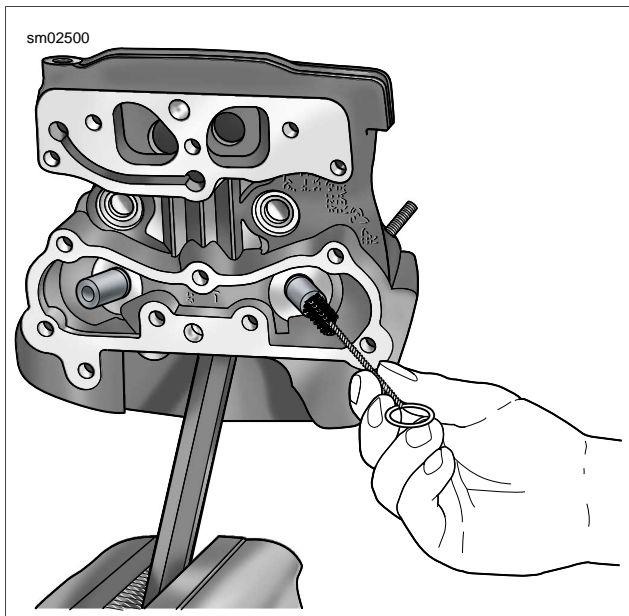

Figure 3-92. Scrubbing Valve Guide Bore
7. See Figure 3-92. Clean valve guide bore with the VALVE GUIDE CLEANING BRUSH (Part No. HD-34751).